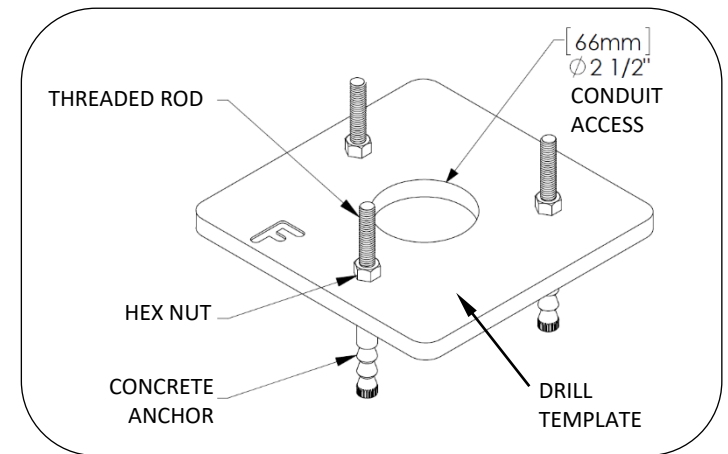

FIG. 3 – DRILL TEMPLATE ASSEMBLY
5. Assemble the template, concrete anchor, hex nut and threaded rod as shown in Fig. 3.